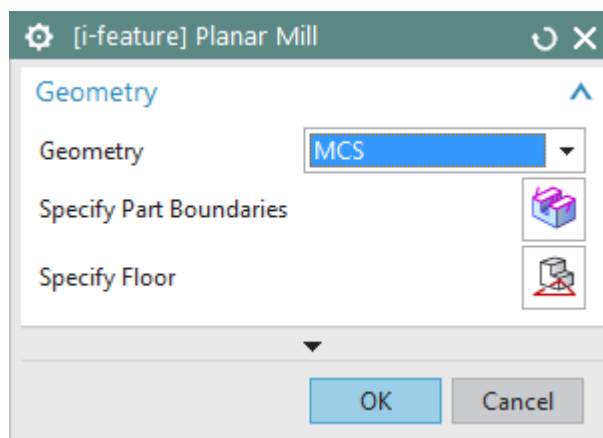

Figure 3.3. The “i-feature Planar Mill” window
- the “i-feature Planar Mill” window (Figure. 3.3)